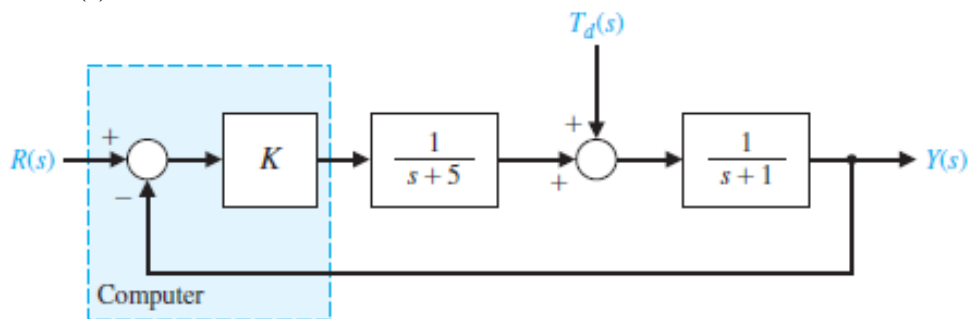

Figure 1. Control System of the Paint Robot
3. Computer control of a robot to spray-paint an automobile is accomplished by the system shown in Figure 1. We wish to investigate the system when  $K = 1, 10, \text{ and } 20$ .
1. Consider the system given in preliminary work Figure 1. Construct the circuit on LabVIEW